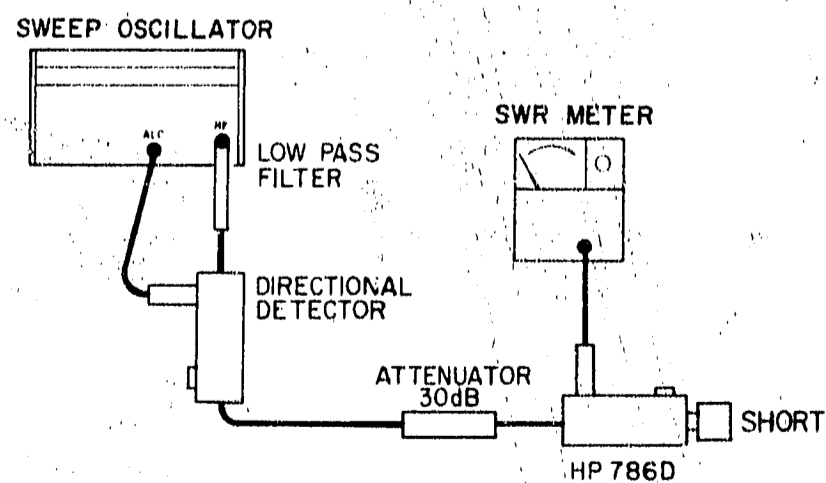

Figure 12. Directivity Check
- Set up equipment as shown in Figure 12.